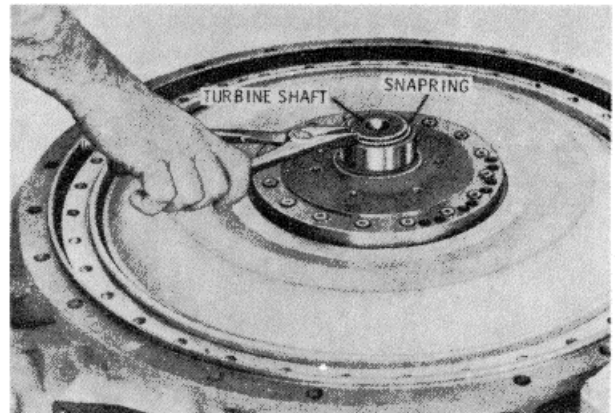

Figure 15-48. Removing Snap Ring from Turbine Shaft
1. Remove the snap ring from the turbine shaft (Figure 15-48).